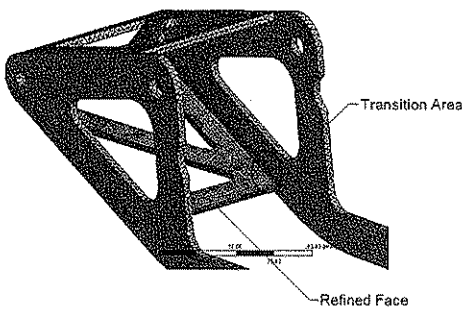

Figure 8-11 Mesh generated on the face with refinement control applied on it
9. From the **Mesh** contextual toolbar, choose the **Update** tool to generate the mesh with more local mesh controls applied. Figure 8-11 shows the partial view of the model with the mesh generated and refine control applied on it.